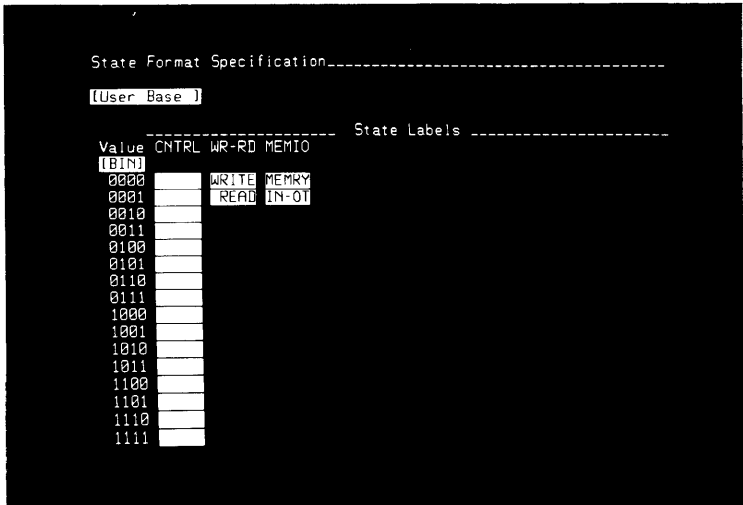

Figure 3-25. State User Base Menu Setup
11. Press the NEXT[] key twice to obtain the [User Base] display. (See figure 3-25.) This display will show every label that is composed of four or less bits. Under each label will be bright fields, one bright field for each value which can be found on the label. You can define a descriptive word to be shown in place of each of the values by typing that name into the associated bright field.